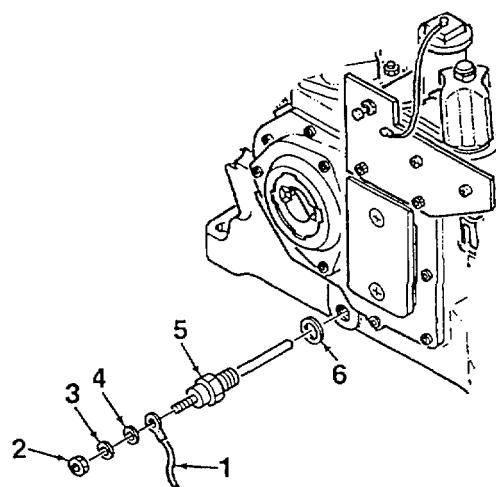

Figure 4-47. Oil Heat Glow Plug
2. Disconnect electrical wire (1, Figure 4-47) from glow plug (5) by removing nut (2), lockwasher (3), and washer (4).
3. Unscrew glow plug (5) from engine block. Remove washer (6).
1. Install glow plug (5, Figure 4-47) and washer (6) into engine block.
2. Connect electrical wire (1) to glow plug (5) using nut (2), lockwasher (3), and washer (4).